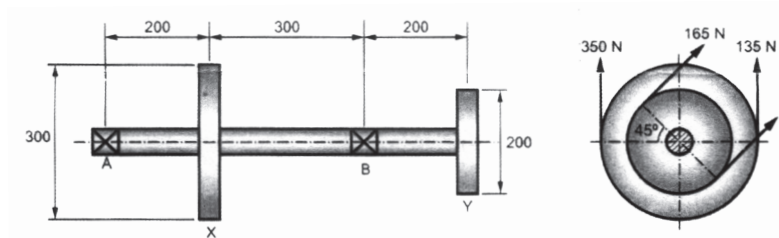

Fig.1
- Q2)** a) A steel shaft made of 40C8 is used to drive a machine. The pulley X, Y and bearings A, B is located as shown in fig.1. Determine the diameter of the shaft using ASME code. The yield strength of the shaft material is 330 N/mm^2 and ultimate tensile strength is 600 N/mm^2 . Take $K_b = 1.5$, $K_t = 1.2$. [14]